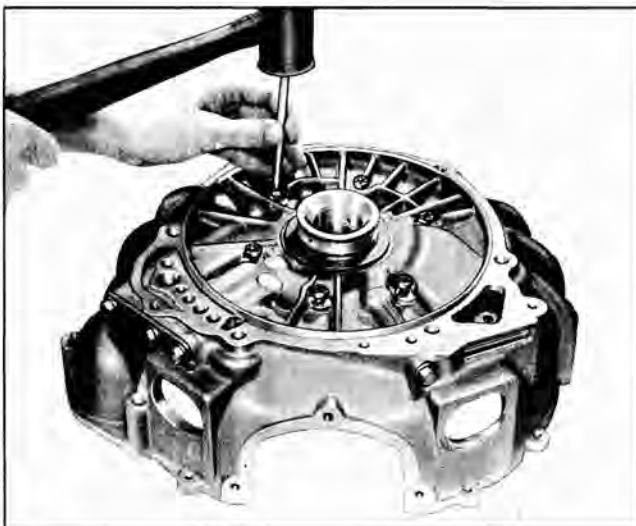

Fig. 67 Removing Pump from Case Cover
2. Support cover so that pump is off bench and gently tap loosened bolts to remove pump from case cover (Fig. 67).